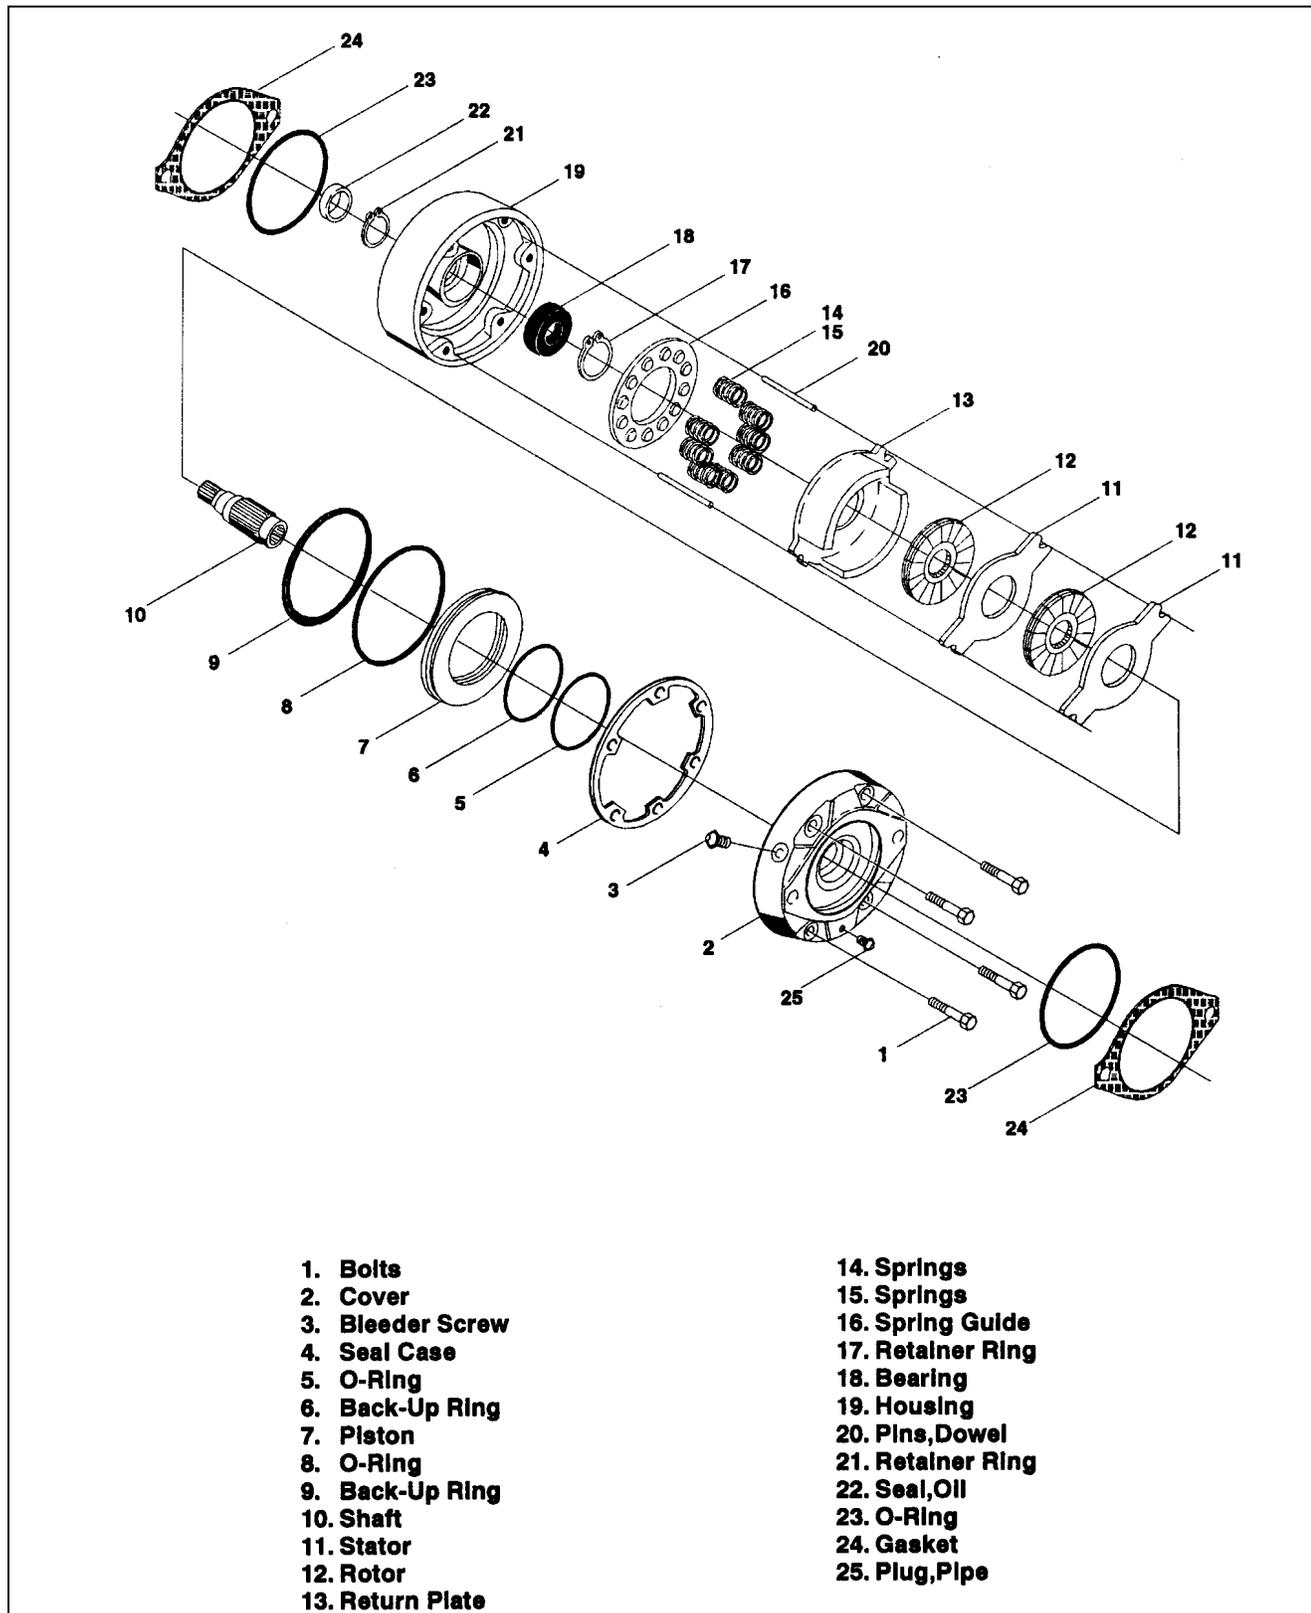

Figure 2-46. Swing Brake, Mico. (Machines Built From S/N 33476 to Present)
2.32 DRIVE BRAKE, MICO. (MACHINES BUILT FROM S/N 33476 TO PRESENT) (SEE FIGURE 2-46.)
2.33 SWING BRAKE, MICO.(MACHINES BUILT FROM S/N 33476 TO PRESENT) (SEE FIGURE 2-46.)